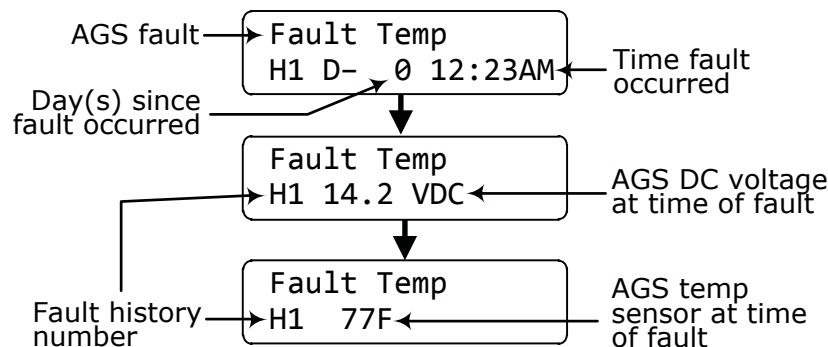

Figure 7-1, AGS Fault History Menu Items
- **04B AGS Faults** – This menu displays a history of the last nine AGS faults. Information for each fault displays from the most recent fault (H1) to the earliest/past recorded faults (H2 up to H9). Refer to Figure 7-1 below.